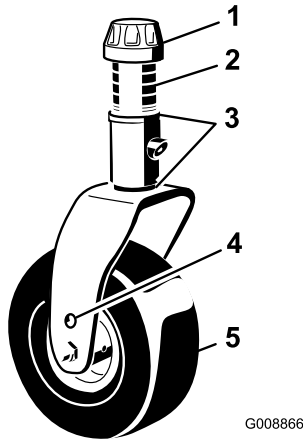

Figure 78
1. Remove the tensioning cap from the spindle shaft and slide the spindle out of the caster arm (Figure 78).